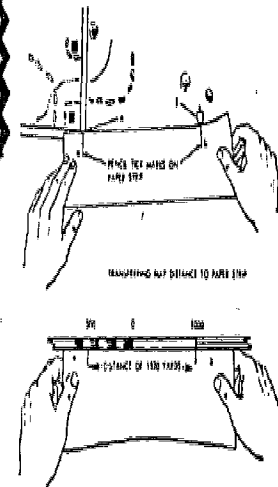

Figure 1-3. Measuring straight line map distances.
b. To determine a straight-line ground distance between two points on a map, lay a straight-edged piece of paper on the map so that the edge of the paper touches both points. Make a tick mark on the edge of the paper at each point. Move the paper down to the graphic scale and read the ground distance between the points. Be sure to use the scale that measures in the unit of measure desired (fig. 1-3).